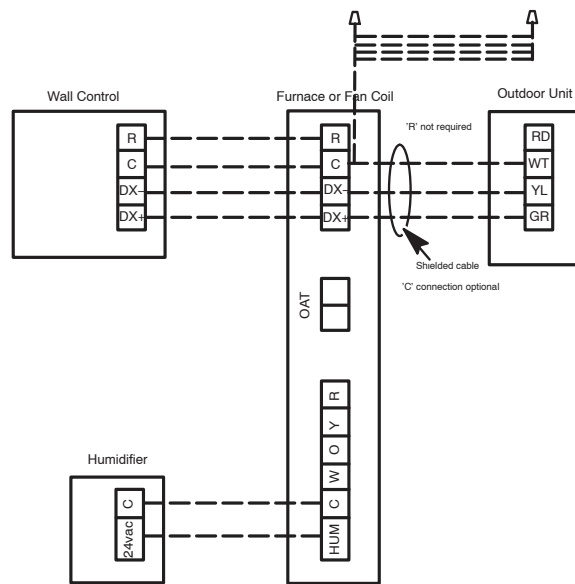

Fig. 6 – Communicating Furnace or Fan Coil Wiring with Communicating Variable Speed HP
Connect four wires from Observer communicating furnace / fan coil with communicating motor capability. Only two wires from furnace / fan coil DX+ (GR), DX- (YL) are connected to the outside inverter wiring GR (DX+), YL (DX-) (see Fig. 6). Connect C (WT) is recommended if wires are available (see Fig. 6). This will reduce the chance of communication issues. Unused low voltage wires should be bundled together and terminated with a wire nut at each end. The end nearest indoor coil should be connected to C terminal.